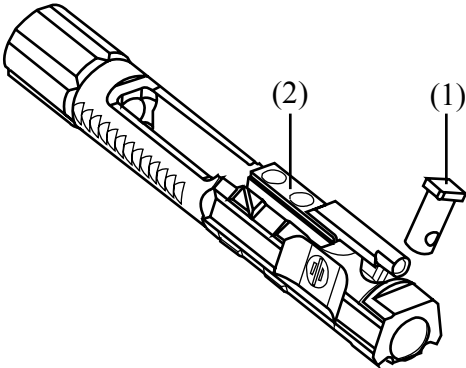

Figure 2.9
2. Bolt cam pin (Fig. 2.9, 1) missing	Replace bolt cam pin
3. Loose or damaged bolt carrier key (2)	Tighten and re-stake carrier key or replace as necessary